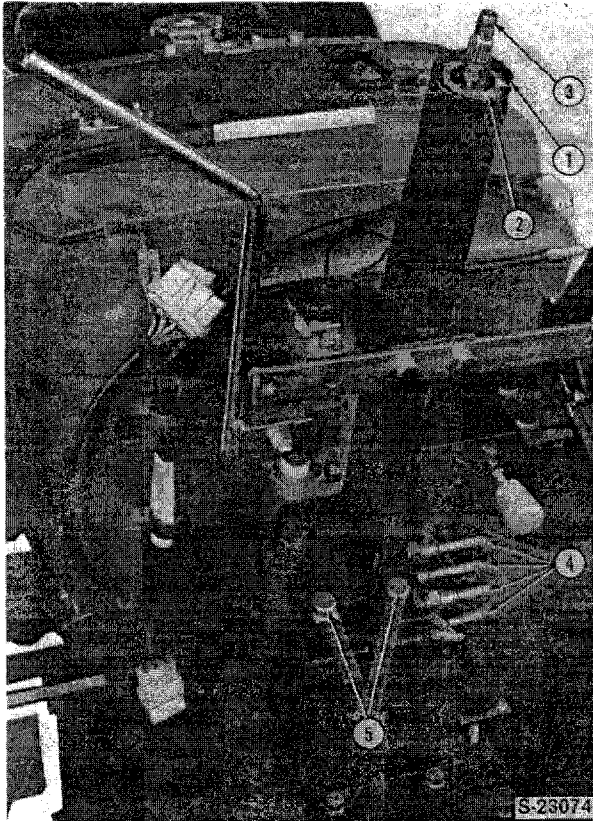

Figure 10
2. Remove the snap ring (1) and oil seal (2), Figure 10.
6. Disconnect the power steering tubes (4), Figure 10, from the valve body and move them clear of the valve.
7. Remove the four valve mounting bolts (5), Figure 10.